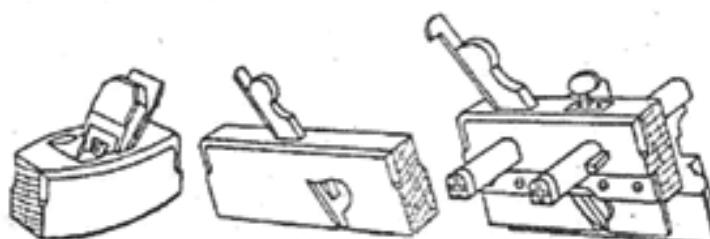

Fig 28
**Smoothing plane.** The plane (Fig. 28) is similar in action to a jack plane, except that it is set to cut a much thinner shaving. A smoothing plane, as its name indicates, is used for smoothing or finishing after a jack plane. The cutting edge of the latter is slightly curved, but a smoothing plane has a straight cutting edge. It is 200 to 250 mm. long having a blade of 70 mm wide.